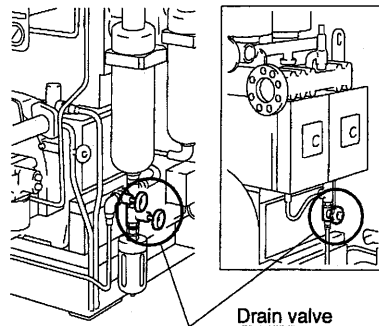

Fig. 21
- (1) Check if the oil is filled up to level H of the oil level gauge. (See page 3-6)
- (2) Check if each drain valve is fully opened. (Fig. 21)